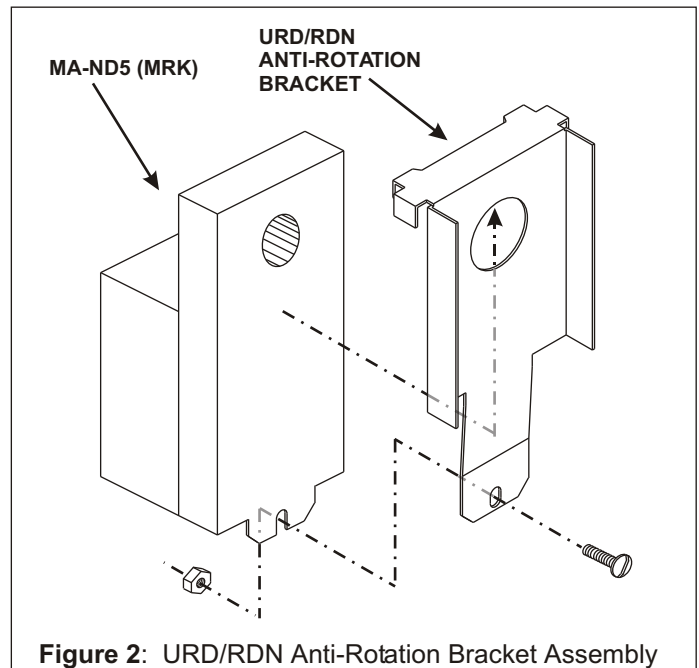

Figure 2: URD/RDN Anti-Rotation Bracket Assembly
- MODEL URD & RDN STYLE DAMPERS (Figure 2)**
- Select appropriate *Anti-Rotation Bracket* for your damper. See figures 2 or 3.